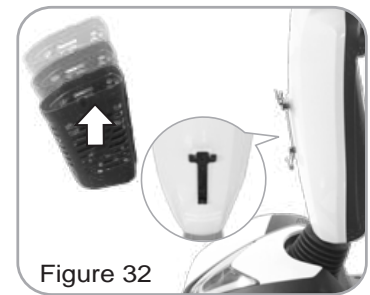

Figure 32
- Lift the front basket upwards. (Figure 32)